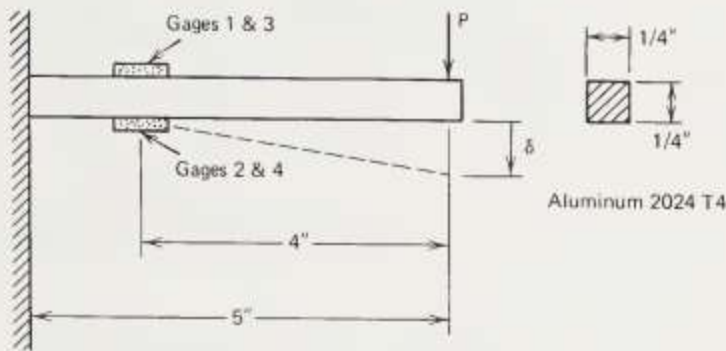

Figure E4.17
- 4.17 Four strain gages are installed on a cantilever beam as shown in Fig. E4.17 to produce a displacement transducer.